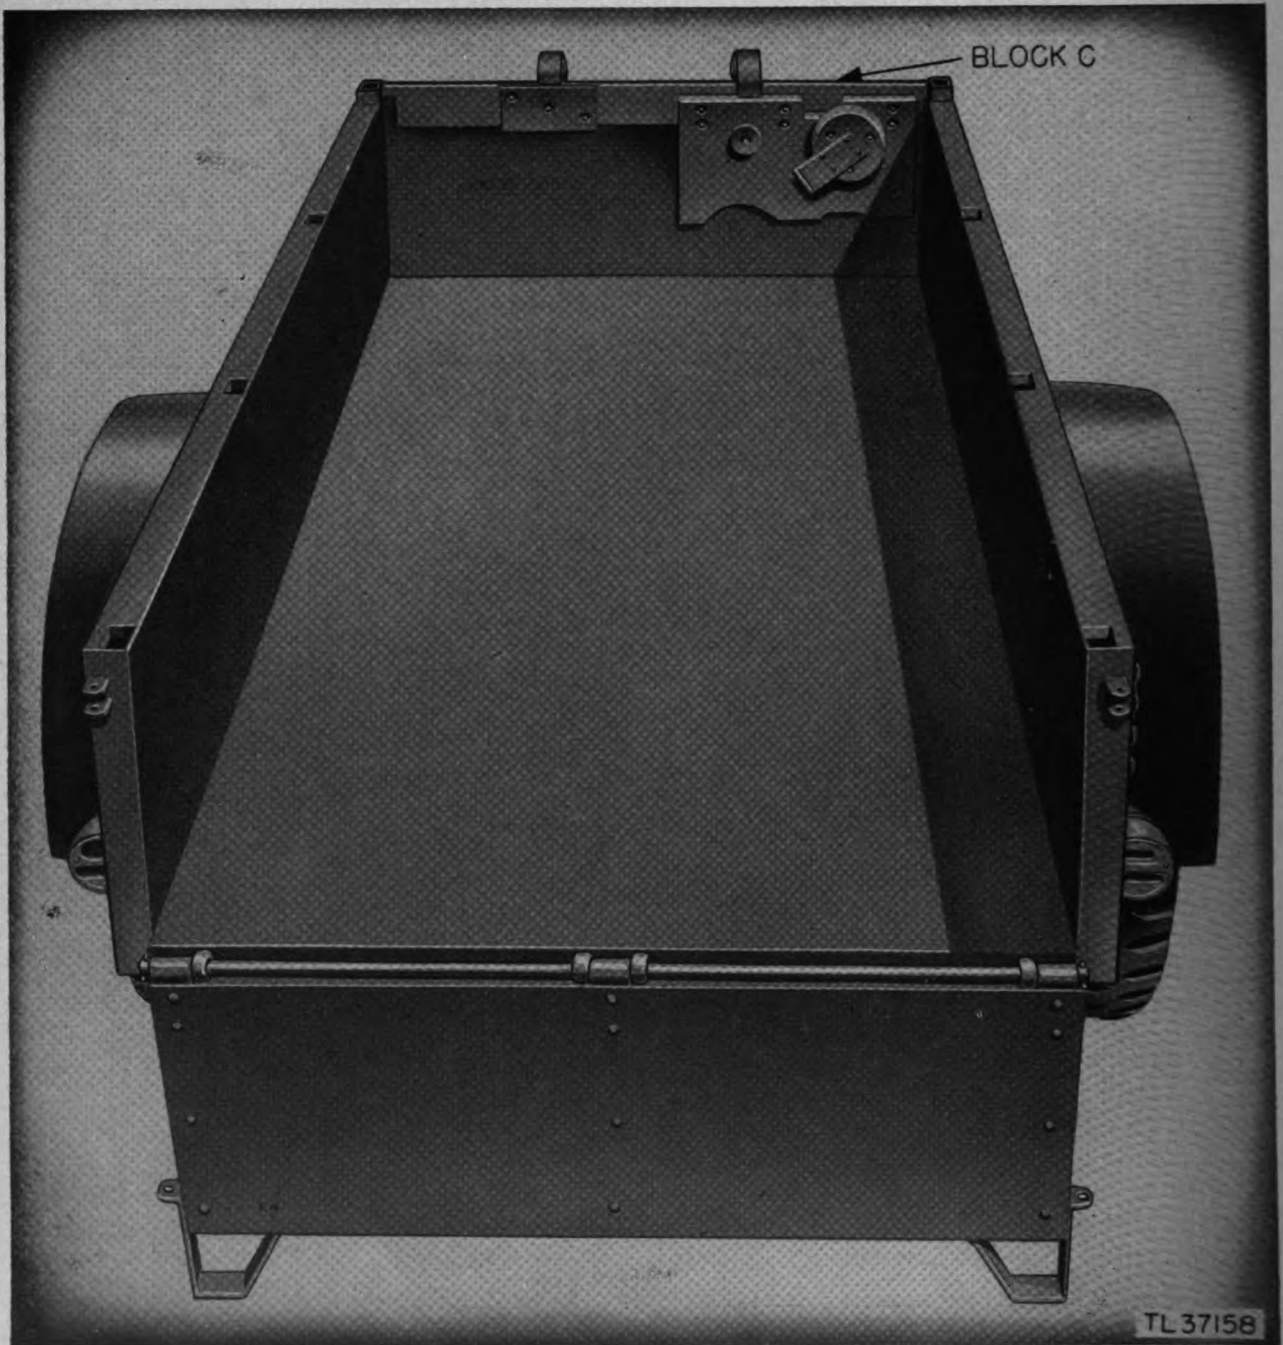

Figure 113. Trailer, two-wheel, 1-ton, cargo, Hercules model T-6.
a. Strip the trailer of all its accessories such as the tarpaulin, tarpaulin bows, front rack, side racks, and the rear rack (fig. 113).
b. Install block C at the front end of the trailer as shown in figure 113. The rectangular steel collars should be placed directly over the stake pockets.